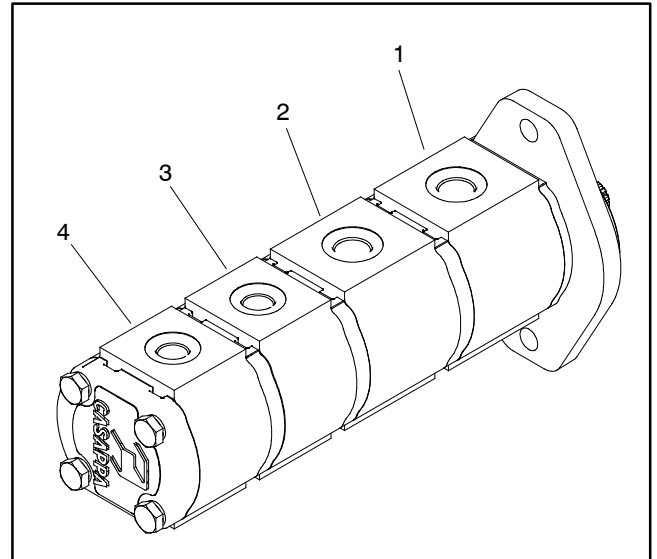

Figure 47
The gear pump flow test should be performed to make sure that the mow, steering, lift/lower, cooling fan and traction charge circuits have adequate hydraulic flow. The front gear pump section provides hydraulic flow for the side cutting decks (Fig. 47). The second gear pump section provides hydraulic flow for the center cutting deck. The third gear pump section provides hydraulic flow for the cooling fan, lift/lower and traction charge circuits. The fourth gear pump section provides hydraulic flow for the steering, traction charge and cooling fan circuits.
3. Determine which gear pump section is to be tested. Disconnect hydraulic hose from fitting in gear pump section that is to be tested (Fig. 47).